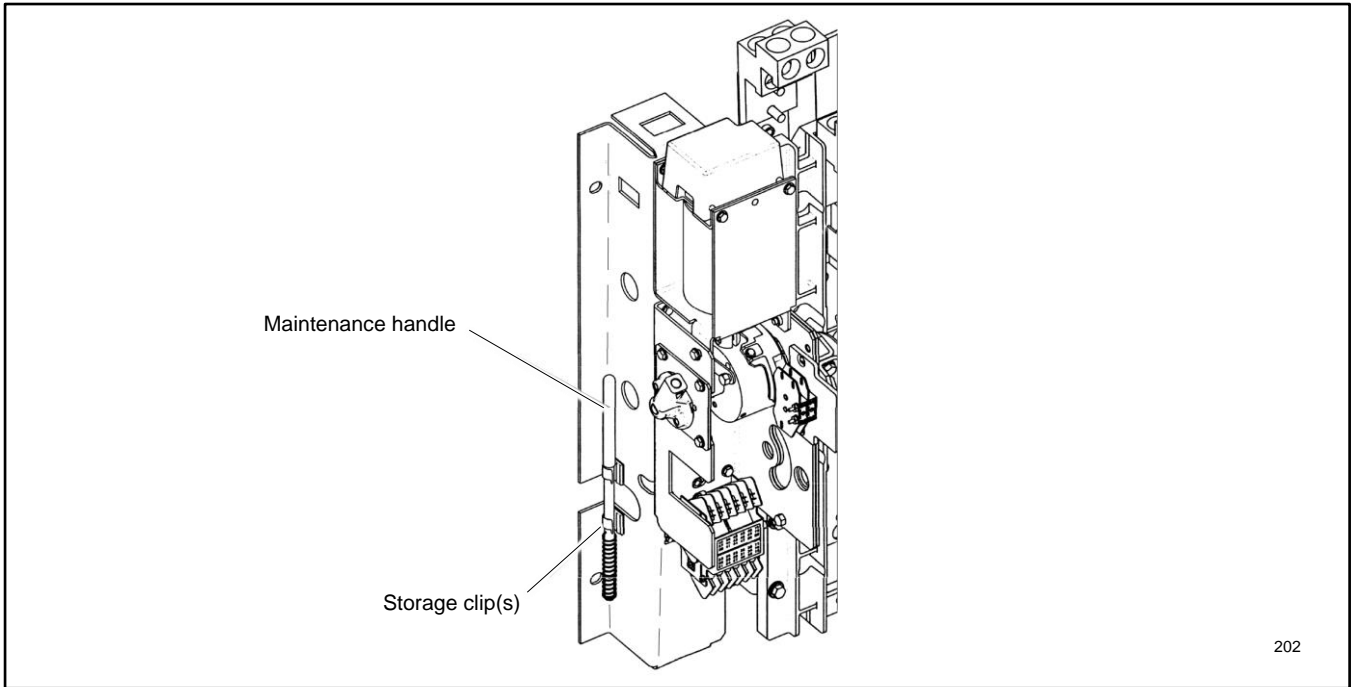

Figure 7 Detachable Handle Storage (typical)
2. Remove the maintenance handle from the clip(s) on the left side of the transfer switch frame. See Figure 7.